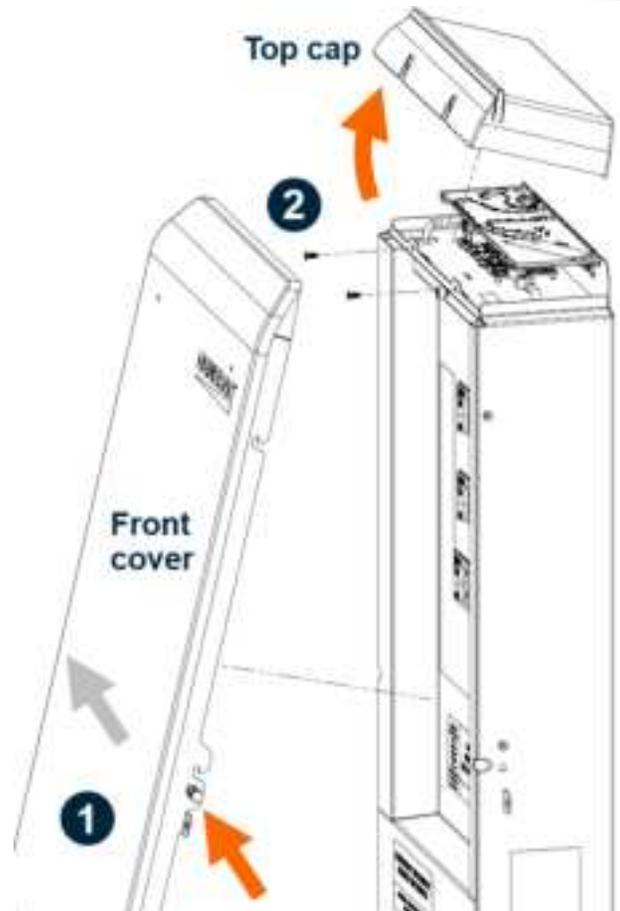

Figure 1. Remove front cover and top cap
1. See **Figure 1**. Remove front cover from SDS by first loosening captive fasteners on side of cover and then lifting up and toward you.